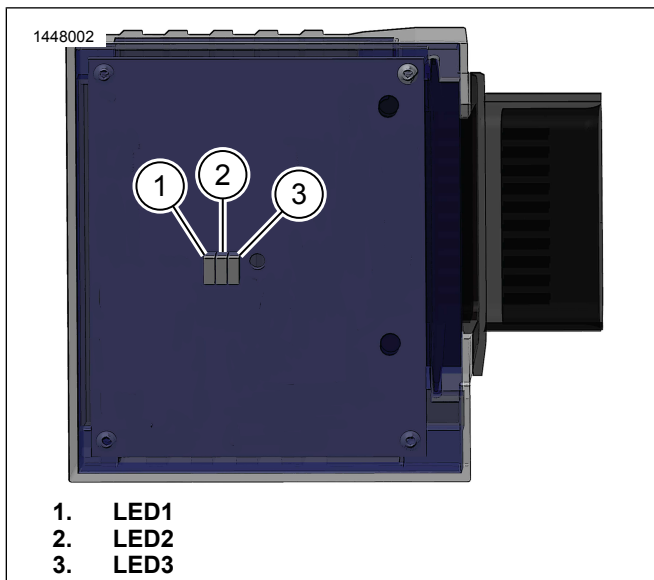

Figure 7. RIO LEDs
- b. See Figure 7 and Table 1 for details on event codes. Several events are interrelated.